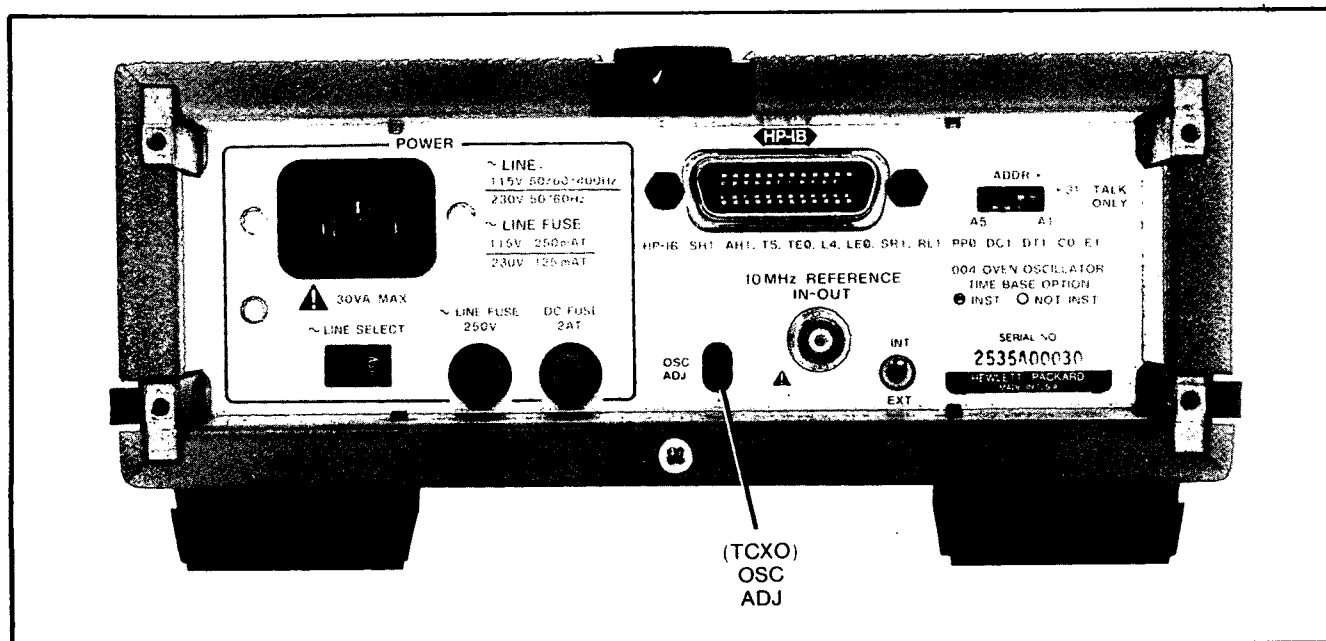

Figure 5-5. TCXO Oscillator Adjustment
b. Connect the HP 5386A rear panel 10 MHz REFERENCE IN OUT to the channel A input of the HP 1740A oscilloscope as shown in Figure 5-5.
c. Select INT with the 10 MHz REFERENCE INT EXT select switch on the rear of the instrument (see Figure 5-5).
d. Adjust the frequency for minimum sideways movement of the 10 MHz signal with the OSC ADJ located on the rear of the instrument (see Figure 5-5).